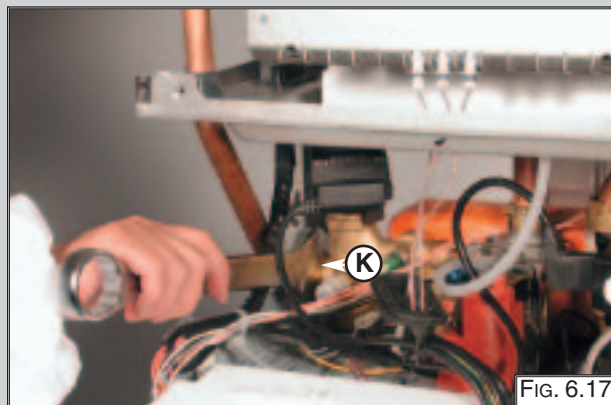

FIG. 6.17
5. Release the connection nut "K" (FIG. 6.17);